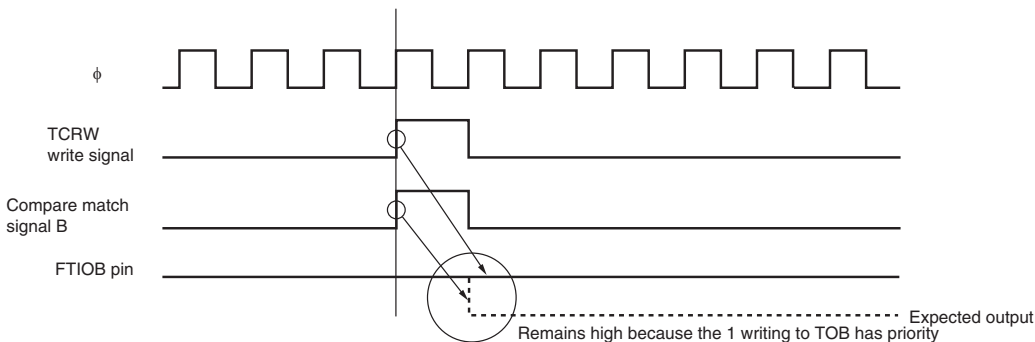

Figure 11.26 When Compare Match and Bit Manipulation Instruction to TCRW Occur at the Same Timing
5. The TOA to TOD bits in TCRW decide the value of the FTIO pin, which is output until the first compare match occurs. Once a compare match occurs and this compare match changes the values of FTIOA to FTIOD output, the values of the FTIOA to FTIOD pin output and the values read from the TOA to TOD bits may differ. Moreover, when the writing to TCRW and the generation of the compare match A to D occur at the same timing, the writing to TCRW has the priority. Thus, output change due to the compare match is not reflected to the FTIOA to FTIOD pins. Therefore, when bit manipulation instruction is used to write to TCRW, the values of the FTIOA to FTIOD pin output may result in an unexpected result. When TCRW is to be written to while compare match is operating, stop the counter once before accessing to TCRW, read the port 8 state to reflect the values of FTIOA to FTIOD output, to TOA to TOD, and then restart the counter. Figure 11.26 shows an example when the compare match and the bit manipulation instruction to TCRW occur at the same timing.